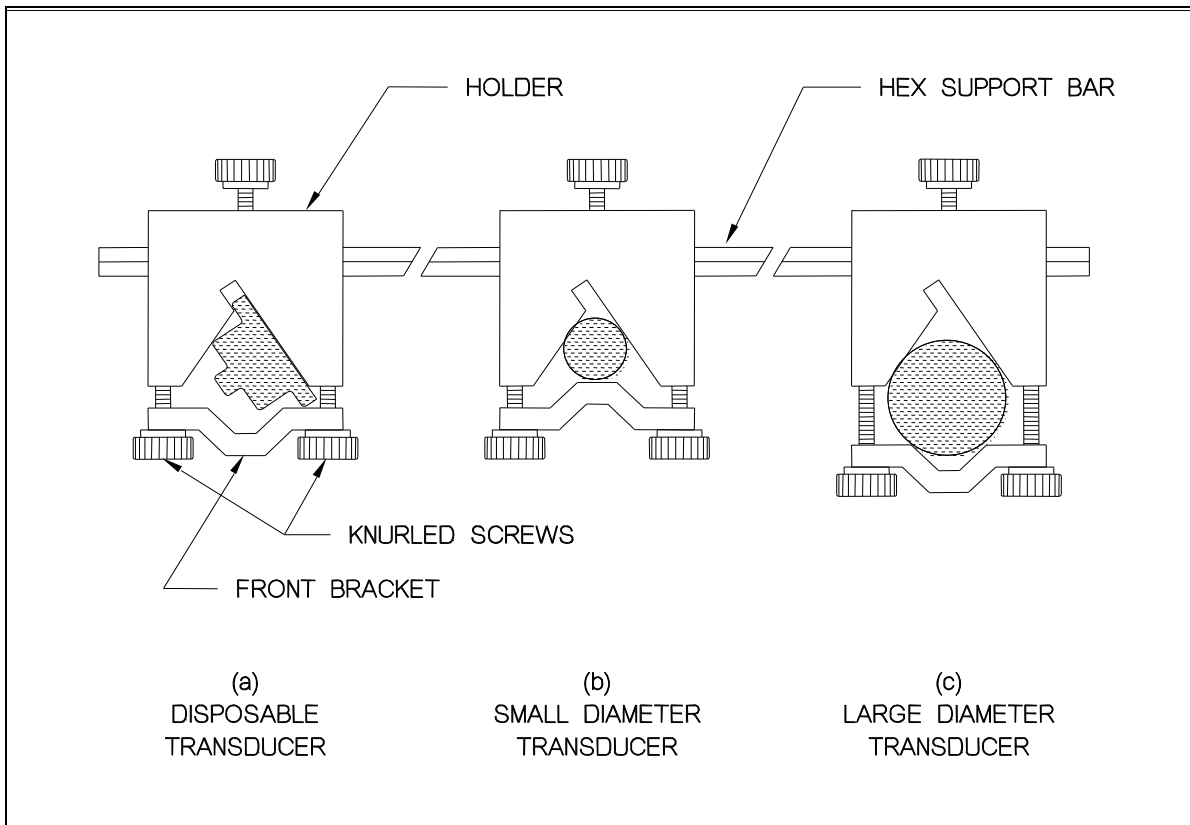

Figure 7. Universal Transducer Holder Assembly
- Slide the transducer between the front bracket and the V-shaped cutout in the holder as shown in Figure 7(a), 7(c).
- To hold a smaller diameter transducer, remove the 2 front knurled screws completely and reverse the front bracket of the transducer holder as shown in Figure 7(b).